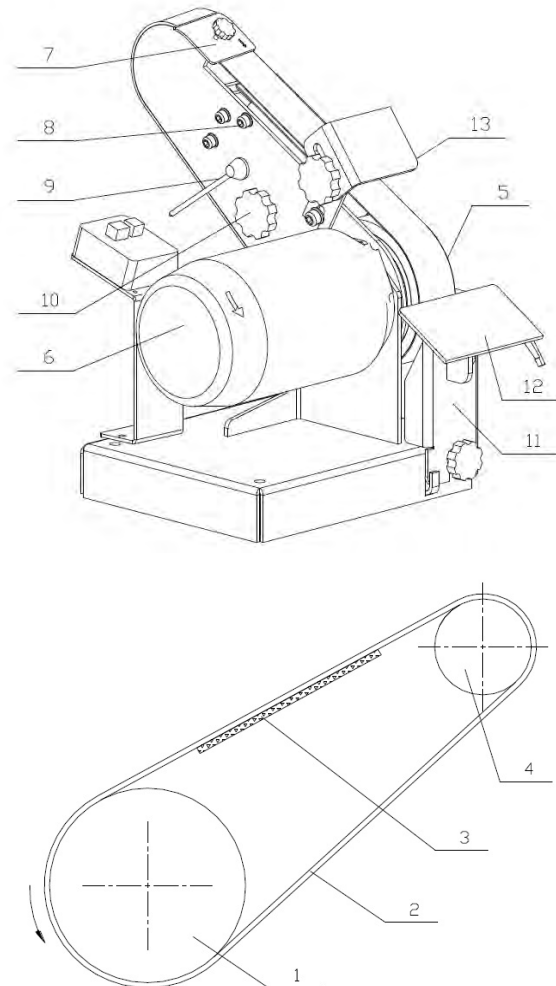

Fig. 4: Description of BTS 51
- Step 2: Now loosen the tension of the grinding belt by turning tensioning lever in clockwise direction [Fig. 4; 9].